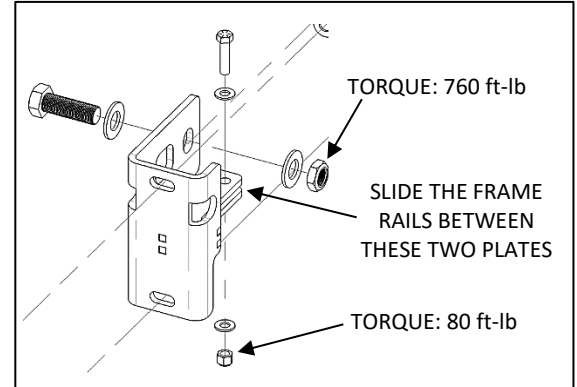

Figure 3: Details to install Submount
3. Install Submounts on truck **(as shown in Figure 1c)** using hardware and details as shown in Figure 3.